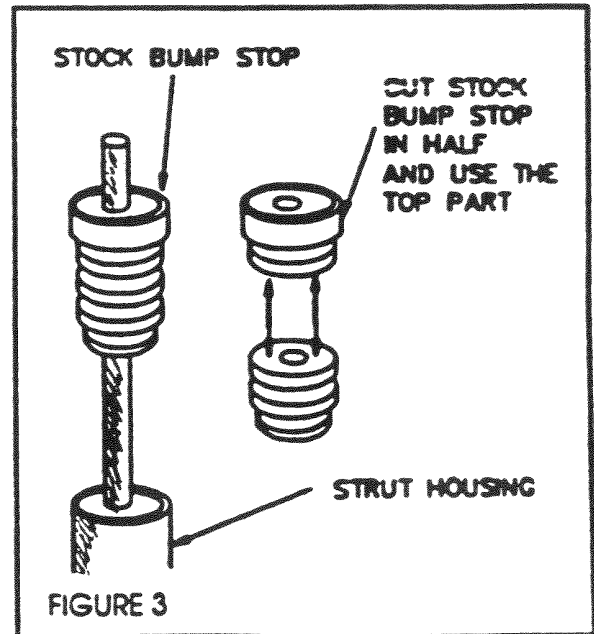

FIGURE 3
7. On strut equipped vehicles; the bump stop (if so equipped) should be trimmed at least in half for added suspension travel. On A-arm (A-frame) type vehicle trimming the bump stops (if so equipped) will increase wheel travel. Some Suspension Techniques Sport spring sets include replacement bump stops. The bump stop (modified or replacement) MUST be installed in All vehicles or severe damage to the suspension components will result. (See figure 3)